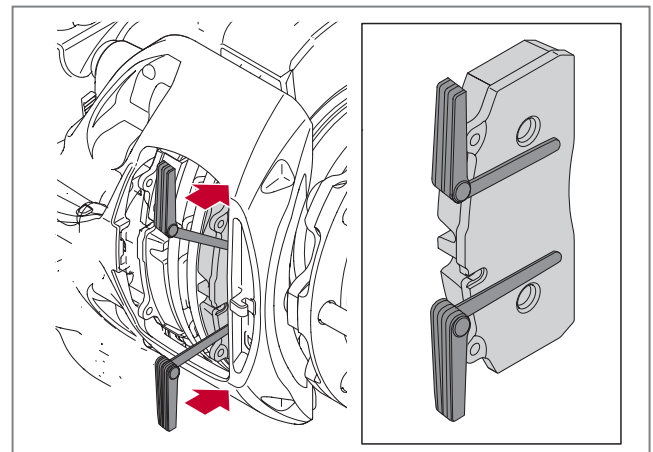

Fig. 17 - Correct location of the feeler gauges
- Insert two feeler gauges in between the brake calliper and the outer brake pad to measure the clearance. Position the feeler gauges in the upper and lower part of the brake pad back plate so that the axial clearance can be measured, see ► Fig. 17.